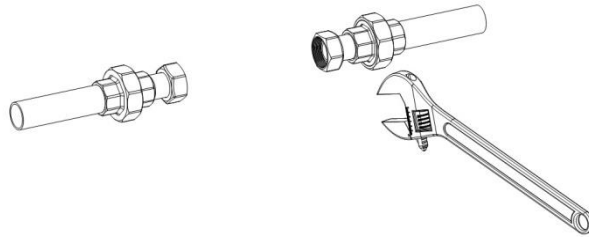

Figure 5-2-3 Meter Mounting Diagrammatic Sketch
- 2) Tighten the connection attachment at the cut-off of the water supply pipeline, as shown in Figure 5-2-3.